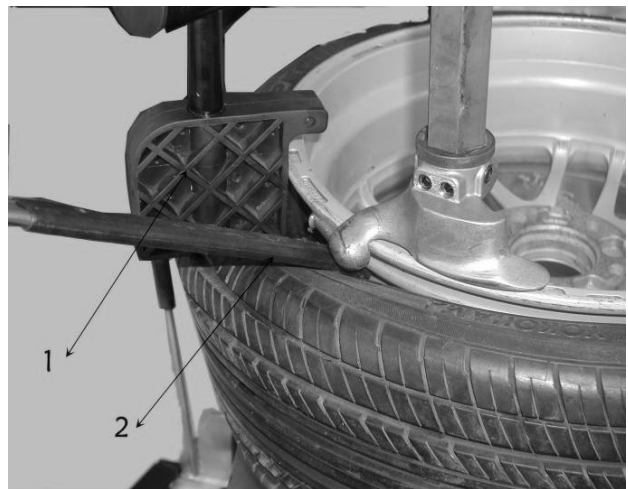

FIG 41
6.2.3 Use the press(fig40-1) to press down the tire section by section rim detached from the mouth and use the brush to spread the lubricant on edge of the lip. Position the demount tool(fig40-2) in the demount position. Place the press beside of the demount tool to press down the lip and insert the crowbar below the demount tool in between the rim and lip (fig41), Lift up the press and move it to the position opposite to the demount tool and press the lip into the tire detach groove and then rotate the crowbar to lift the lip onto the demount tool (fig42) . Rotate the turntable to detach the upper lip.